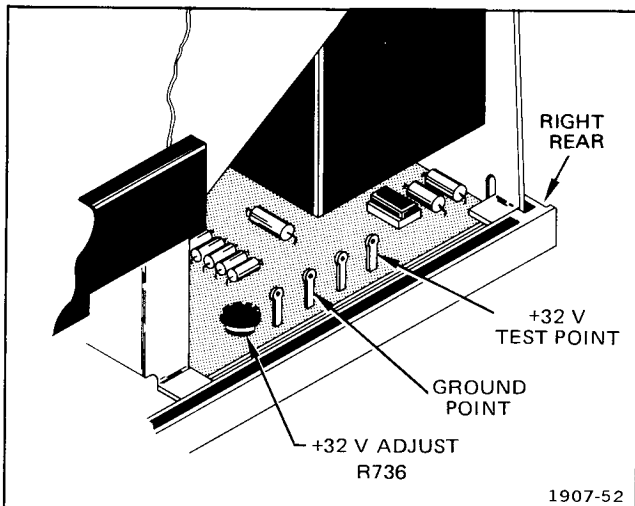

Fig. 6-1. +32 volt adjustment location.
- a. Connect digital voltmeter between +32 V test point and the ground test point (see Fig. 6-1). If meter reads between +31.94 and +32.06 V, skip step b.
b. ADJUST—+32 V Adjust, R736, for +32 V. Refer to Fig. 6-1.